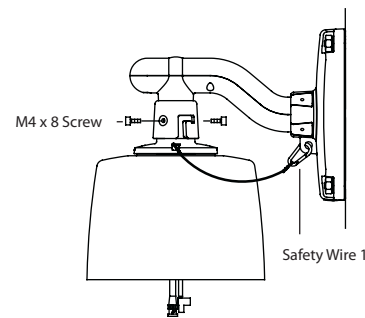

FIG. 5
- Hang the Safety Wire 1 of the Outdoor Bracket up in the Wall Mount Bracket and tighten them up with Screw M4 x 8. (FIG. 5)